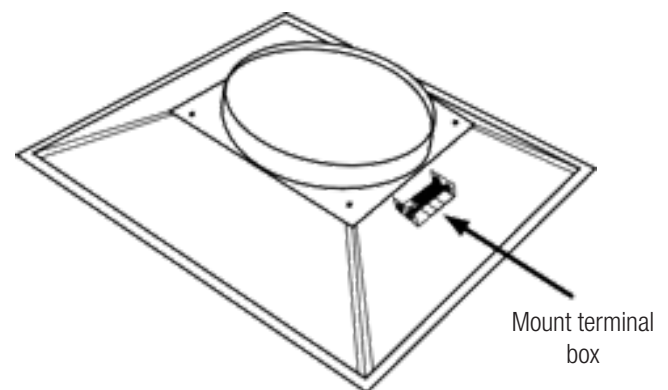

Fig. 2
2. Position the terminal box over the 5/16 in. hole on the top of the backpan (see Figure 2).